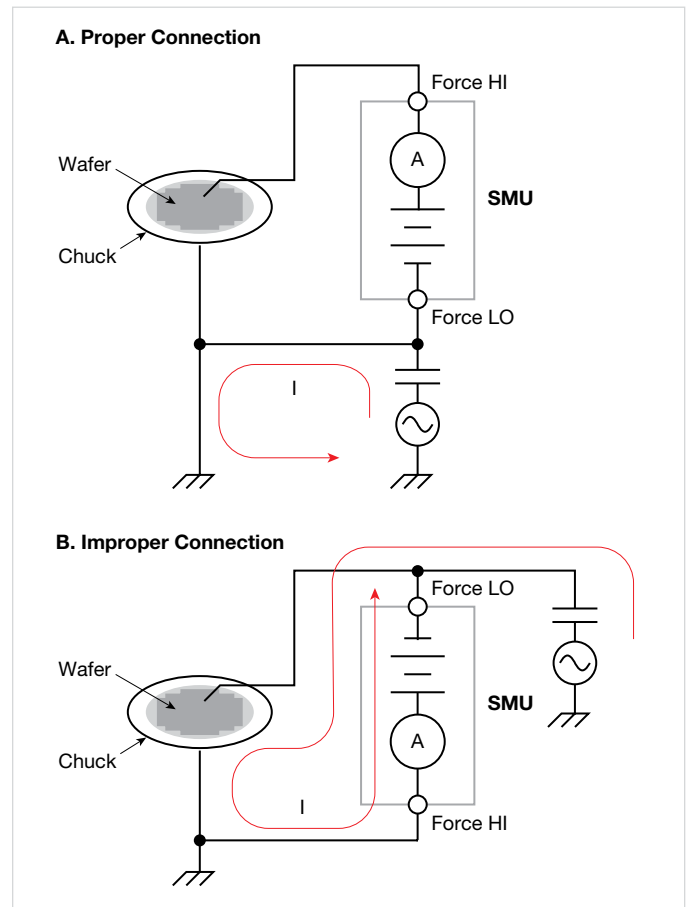

Figure 14. Making SMU Connections to a Device on a Grounded Chuck
**Figure 14** illustrates both a proper and an improper measurement connection. **Figure 14a** indicates a proper connection because the Force HI terminal of the 4200-SMU is connected to the gate of the device on a wafer, and the Force LO terminal is connected to the grounded chuck. The gate terminal on the wafer is the highest impedance point and the grounded chuck is the low impedance point, so this circuit is a proper connection. Note that the common mode current flows from the Force LO terminal of the SMU to the grounded chuck; however, the current does not flow through the ammeter, and therefore does not affect the measurement.